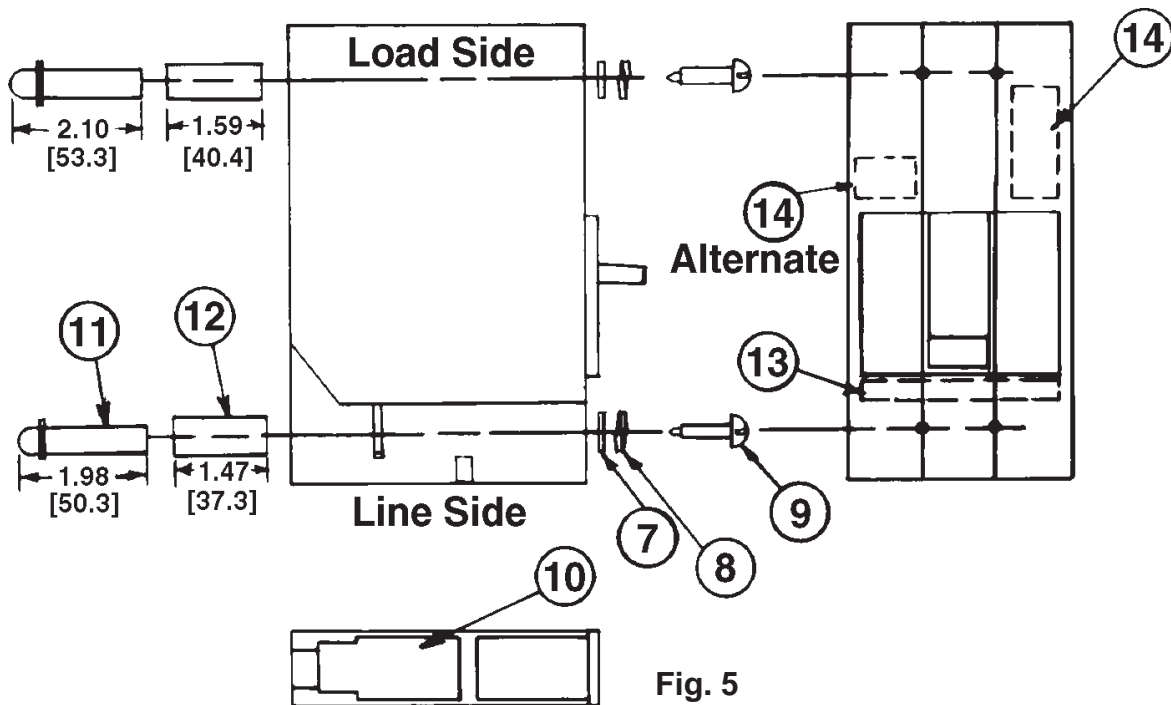

Fig. 5
3. Insert line end shields (10) into slots provided at line end breaker.
4. Add accessory warning labels (13), (14) to top of breaker as indicated in Fig. 5.
5. Align breaker with plug-in adapter and force male studs (11) over female tulip clips in plug-in adapter. Secure breaker in place with #8 X 4.06 long mounting screws (16). Torque to 12 ± 2 In.-Lb. [1.36 N/m]